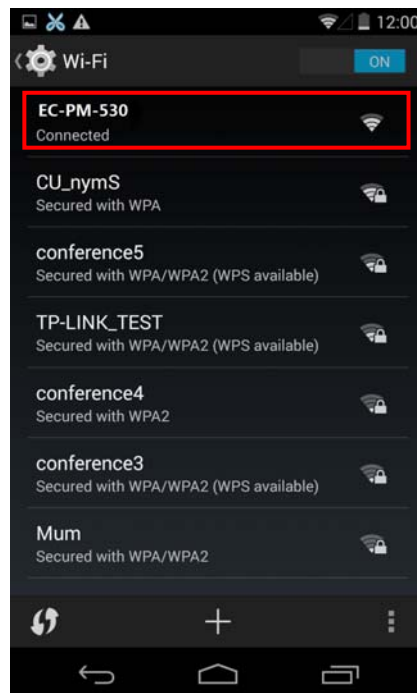

Figure 20
2.3 Select the “Wi-Fi” function to “ON”, and select the “EC-PM-530B” hotspot, as shown in Figure 20.